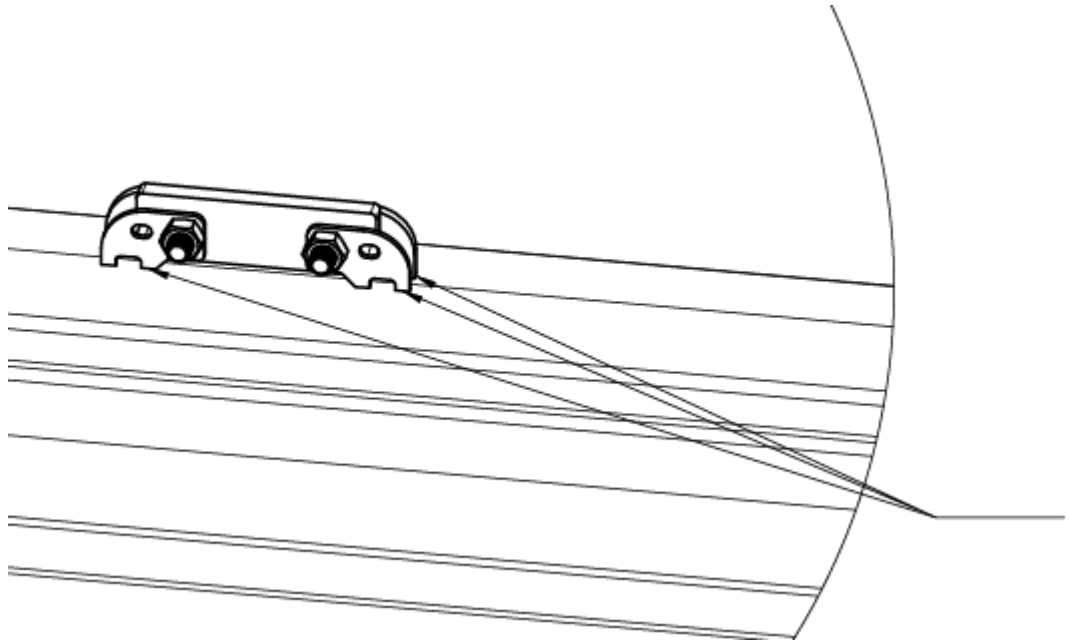

Fig. 3.5. Welding the brackets oriented by jig.
- 4) Weld the controller mounting brackets (big and small) in the selected location (Fig. 3.5).